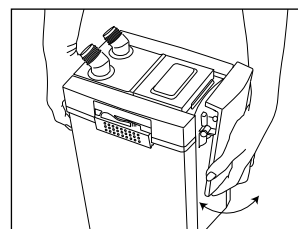

fig 10
- Leaving the levers in the closed position, open the two closing hooks by moving them downwards and outwards, then raising them and releasing the head (fig. 10).